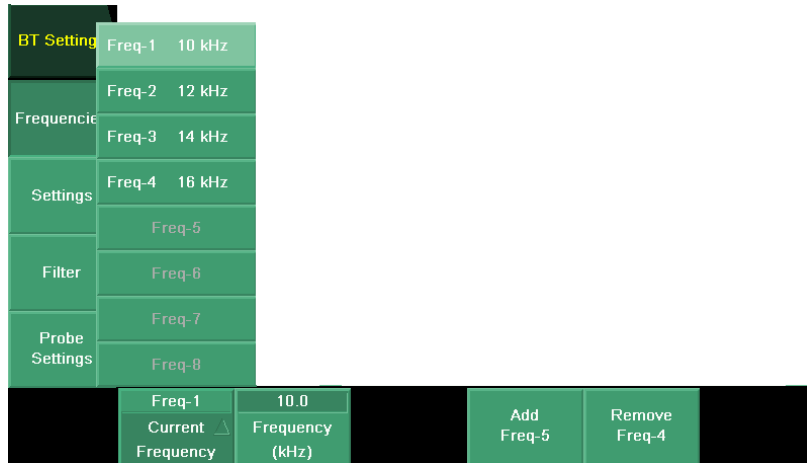

Figure 3-6 Checking frequencies
6. Verify the number of frequencies by selecting **BT Settings > Frequencies** (see Figure 3-6 on page 39).